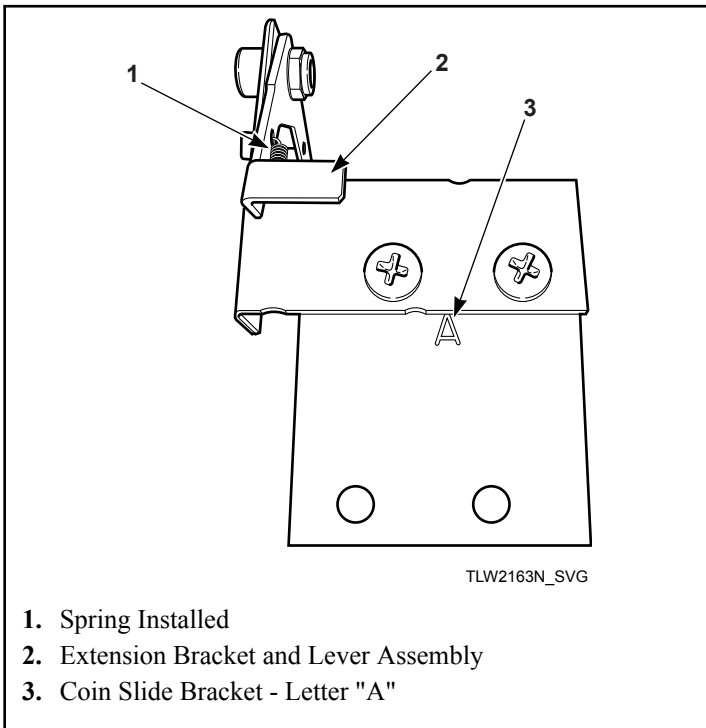

Figure 38
5. Install extension bracket and lever assembly onto coin slide bracket using two screws and locknuts. Refer to *Figure 38* .
IMPORTANT: Install coin slide bracket with side marked "A" facing up and toward extension bracket and lever assembly. Refer to *Figure 38* .